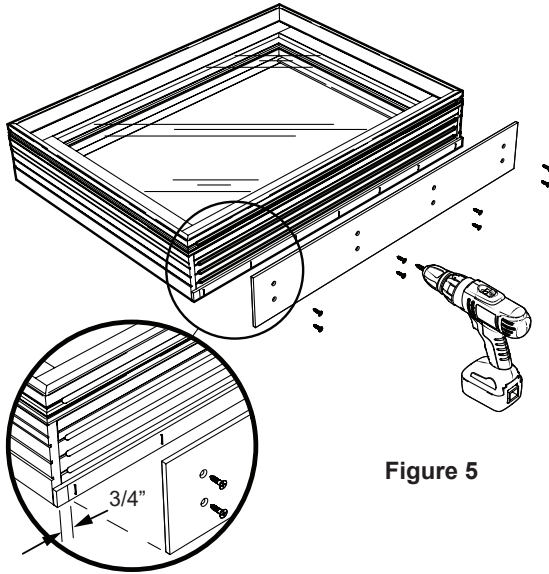

Figure 5
- Measure 3/4" from the end of the jamb and mark this location. (Figure 5)
Note: The opposite end of the plate should also be 3/4" from the end of the jamb. (Figure 5)